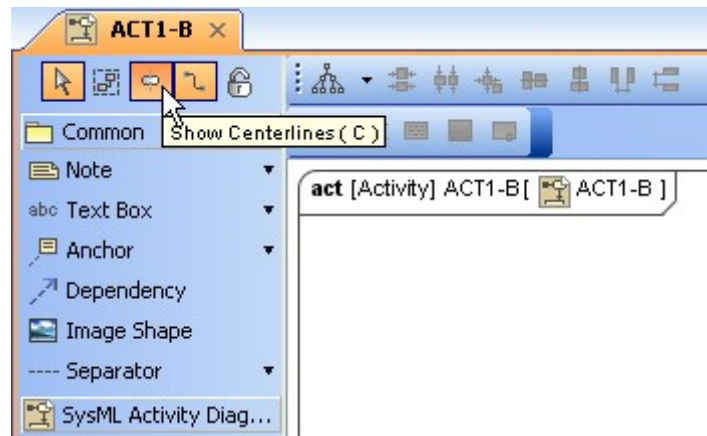

Figure 181 -- Show Centerlines Button
- Click the **Show Centerlines** button (Figure 181) on the activity diagram toolbar; or